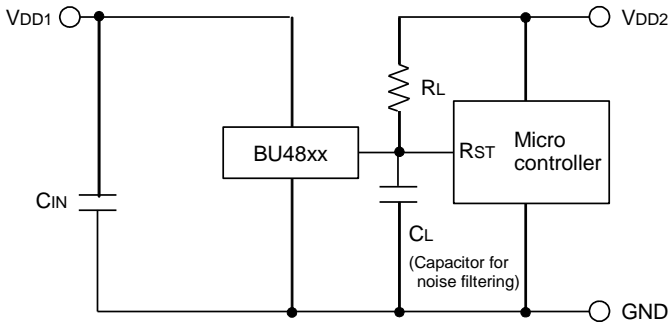

Fig.15 Open Drain Output type
CASE1:The power supply of the microcontroller (VDD2) differs from the power supply of the reset detection (VDD1). Use the Open Drain Output Type (BU48xx series). Attach a load resistance (RL) between the output and VDD2. (As shown Fig.15)